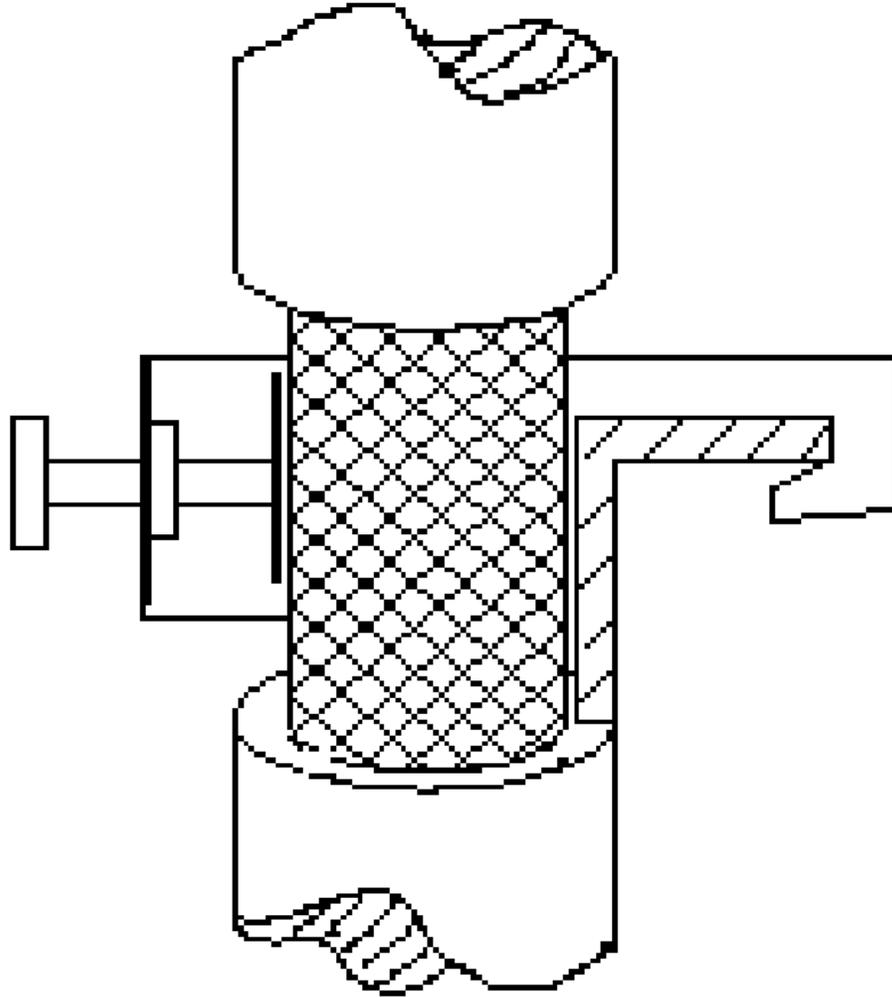

Figure 5-3. Strain Relief and Grounding
- In some panels a zinc-plated rail can also serve not only as strain relief but also as grounding for the overall braided shield if done properly. This can be done by stripping the outer insulation from around the cable until the metal braiding is fully exposed around the cable so proper contact can be made. See Figure 5.3.